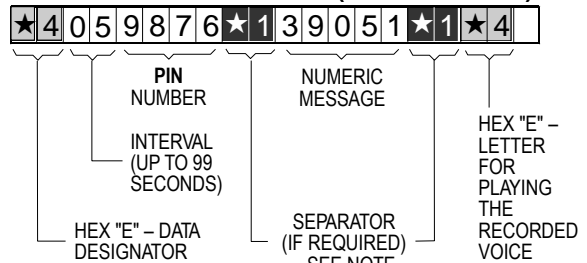

Figure 7. Programming the Pager's 2nd Location
- Suppose the target pager requires a 5 second interval between the end of dialing and the beginning of the message. Also suppose that the PIN number is 9876 and the message is 39051. Key the data as shown in Fig.7.